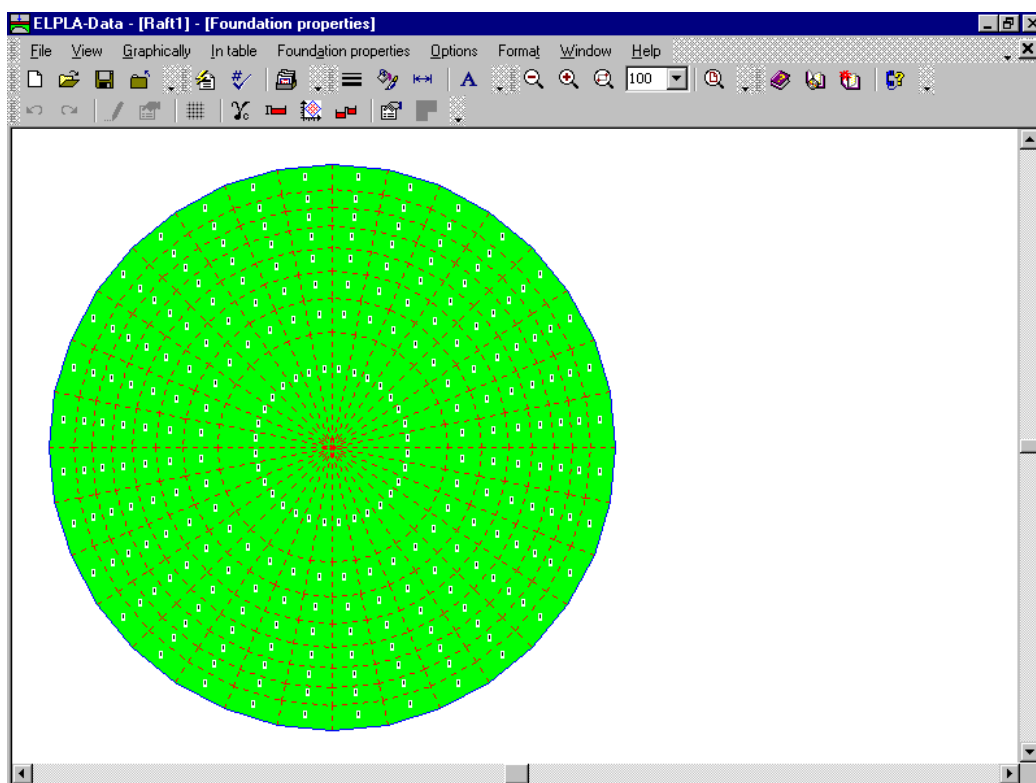
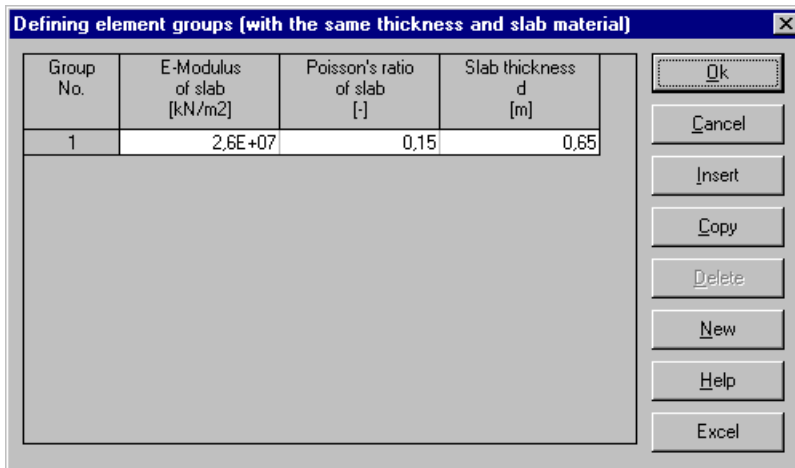
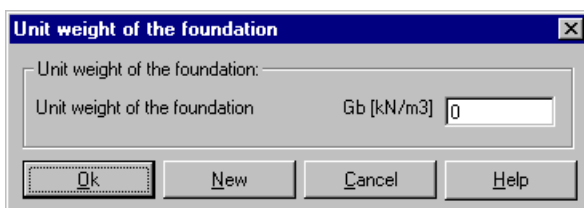

Figure 3-21 "Foundation properties" embedded program
Figure 3-22 "Defining element groups" list box
Figure 3-23 "Unit weight of the foundation" dialog box
To define the foundation properties, choose "Foundation properties" command from "Data" menu of *ELPLA-Data* window. The following embedded program in Figure 3-21 appears with default foundation properties. The data of foundation properties for the current example, which are required to define, are raft material and raft thickness. Any other data corresponding to foundation properties in the program menus are not required. Therefore the user can take these data from the default foundation properties.
- Choose "Element groups" command from "In Table" menu in the window of Figure 3-21. The following list box in Figure 3-22 with default data appears. To enter or modify a value in this list box, type that value in the corresponding cell, then press "Enter" key. In the list box of Figure 3-22 enter E-Modulus of the raft, *Poisson's* ratio of the raft and raft thickness
- Choose "Unit weight of the foundation" command from "Foundation properties" menu in the window of Figure 3-21. The following dialog box in Figure 3-23 with a default unit weight of 25 [kN/m³] appears. To neglect the self-weight of the raft in the analysis, type 0 in the edit box "Unit weight of the foundation"
- Choose "Save foundation properties" command from "File" menu in Figure 3-21 to save the foundation properties
- Choose "Close foundation properties" command from "File" menu in Figure 3-21 to close the "Foundation properties" embedded program and to return to the main window of *ELPLA-Data*